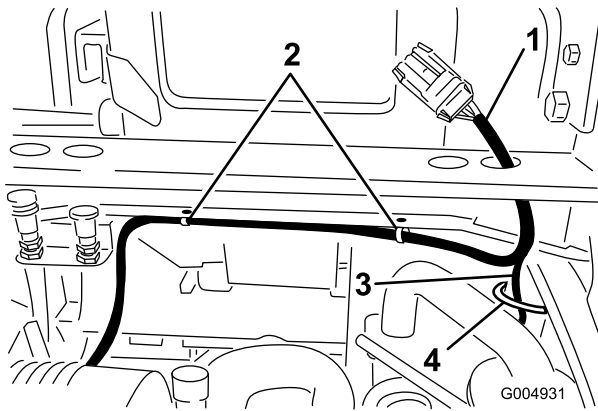

Figure 27
- 3. From the same end of the harness as the large connector, route the long cab wire (with two connectors), down the ROPS post, under the rear panel frame member and up through the hole in the bottom of the control panel (Figure 27). Secure the long wire to the lower ROPS post with a cable tie.
5. Route the other end of the harness under the rear frame mount toward the left side of the machine while inserting the harness wire clips into the holes in the underside of the rear frame mount (Figure 27).